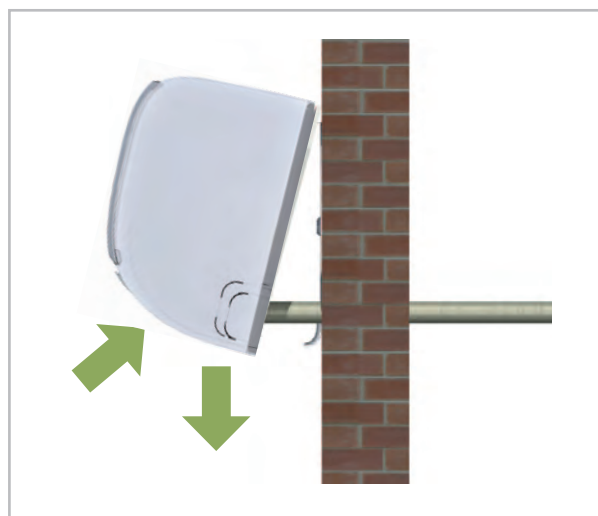

Fig. 29: Horizontal positioning
5. Check again that the unit is level. (Fig. 29)